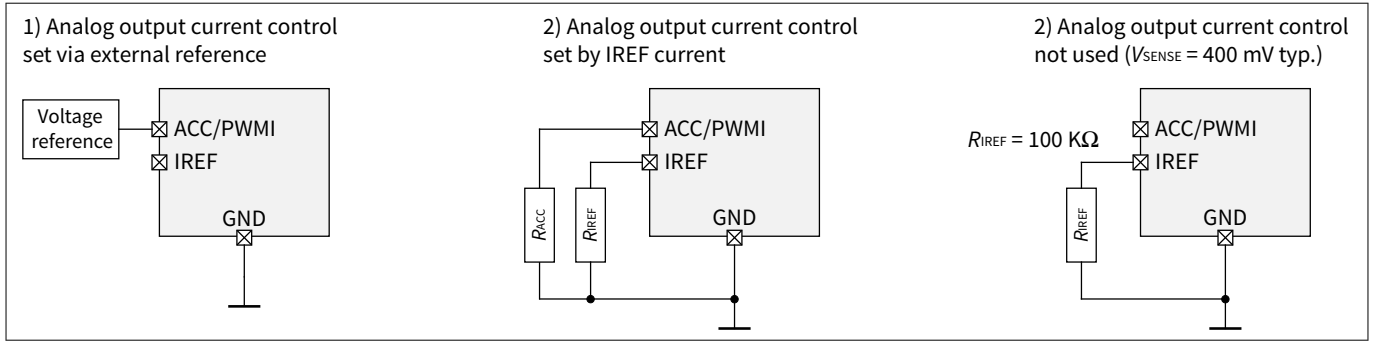

Figure 16 Analog output current control configurations
- If the ACC is connected to a voltage reference with low output impedance, as shown in Figure 16(1), the voltage V_{ACC} , is equal to the voltage reference. As it is expected, in this case it is not necessary to connect a resistor to the IREF pin
- If the ACC is connected to digital/analog dimming, as shown in Figure 16(2), the IREF pin provides current to the ACC/PWMI pin set by a resistor. The voltage on the $V_{ACC/PWMI}$ on this board is equal to:
- If the analog or digital current control is not needed, the ACC/PWMI pin stays open, as shown in Figure 16(3), then connect a high resistance to the IREF pin. In this way, the voltage on the ACC/PWMI pin reaches its maximum possible voltage